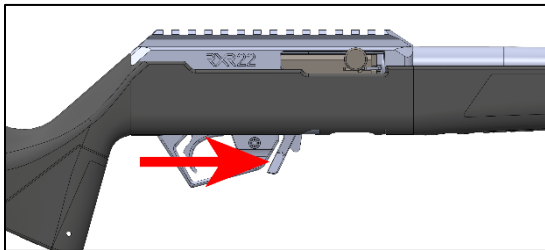

Figure 9
- Keeping your finger away from the trigger and outside of the trigger guard, be prepared to catch the magazine with one hand and press forward on the magazine latch to remove the magazine— Figure 9. It should drop free from the firearm with little effort.